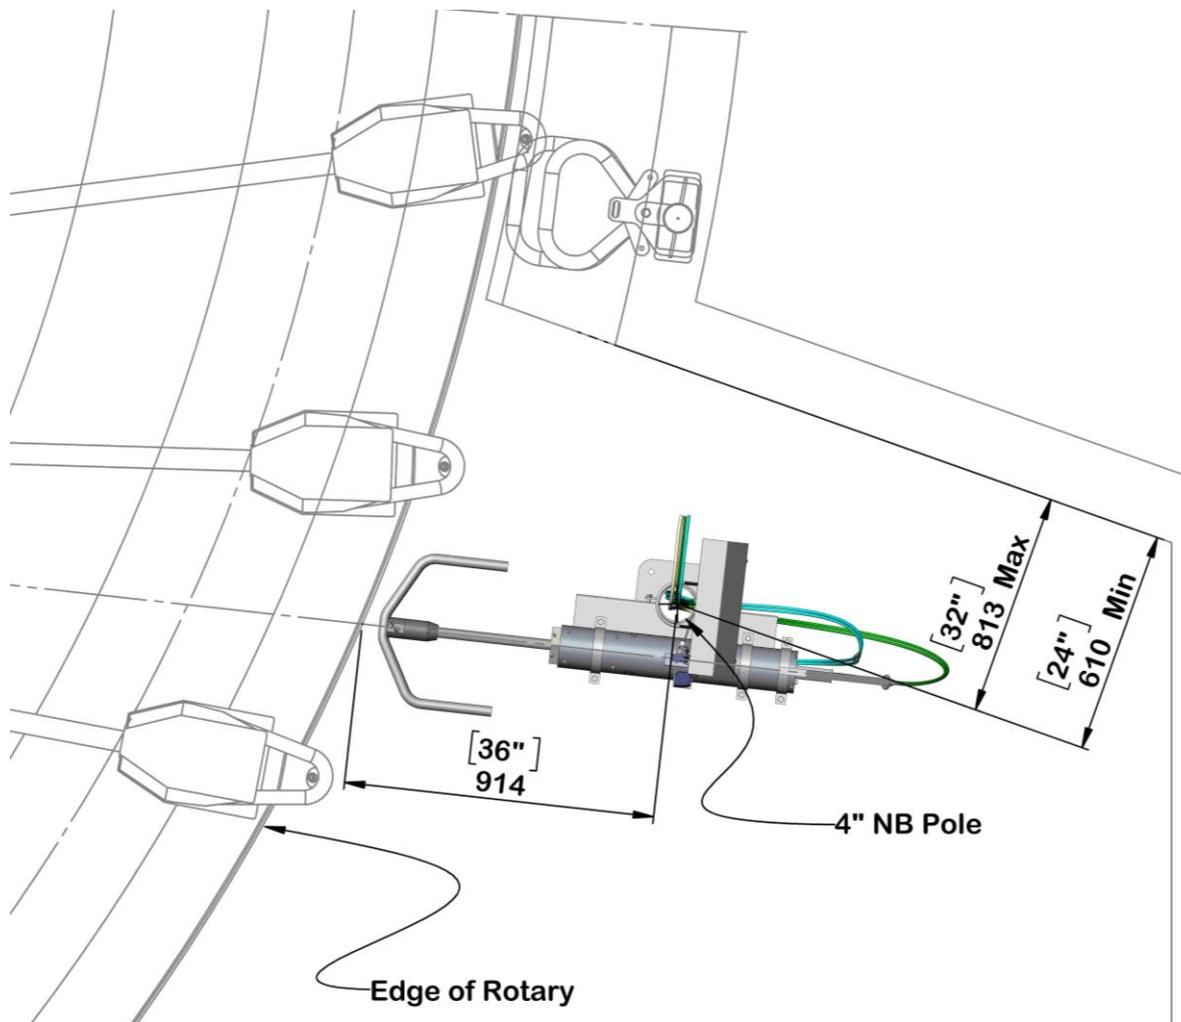

Figure 2
- Mark centre point of Pole on floor. See *Figures 2 & 3*
- Use the clamps supplied to fit Teatwand™ Exact Pole Mount Assembly at correct height and align suit the angle of the stall. See *Figures 2,3 &4*